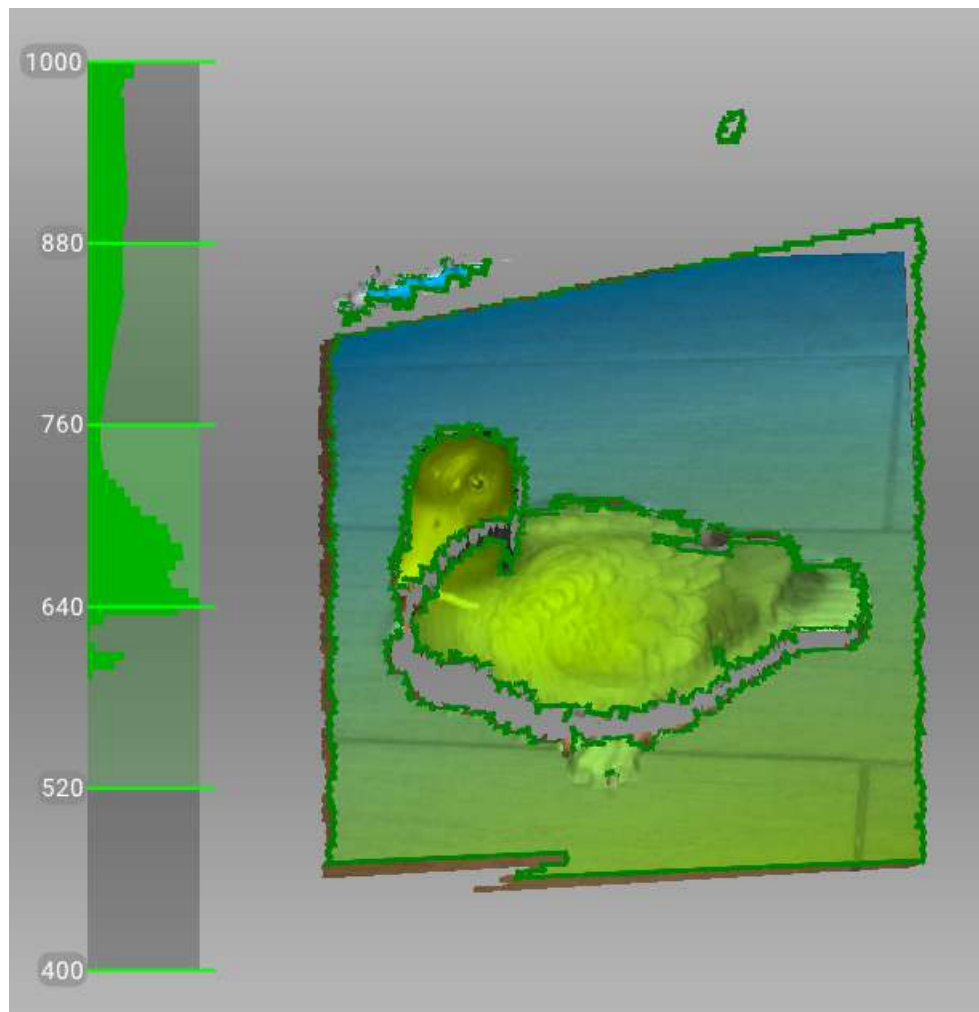

Figure 38: Distance meter and distance color showing surfaces that fall within the optimal range for Artec EVA.
- Try to position the scanner in the way the most surfaces in the field of view are colored in green which corresponds to the center of the range meter¹ (Figure 38)
¹ Technically, the center of the range meter is the center of the depth of view. The 3D scanner has near and far cutting planes (see Figure 11) that determine the optimum distance between the scanner and the target object. Artec Studio offers the *Range meter* feature so you can easily visualize the distance between the scanner and the object during the recording process. The *Range meter* comprises a set of semitransparent diagrams located on the left side of the *3D View* window (see Figure 38). Each histogram displays the distribution of captured surface points by distance from the scanner. The color corresponds to the set of surfaces from which it was obtained: by default, gray indicates registered key frames, dark green indicates the last successfully registered frame and red indicates a registration error.